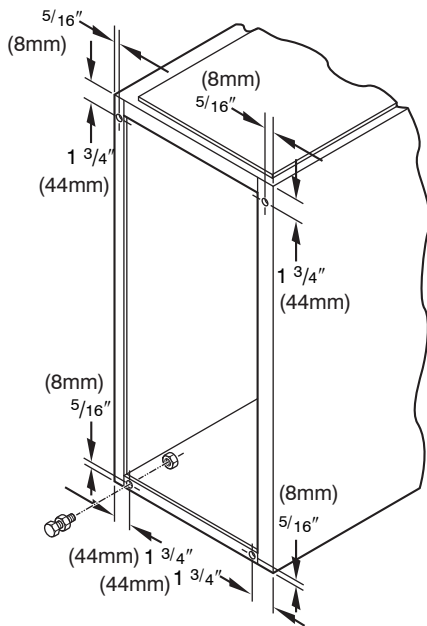

Fig. 10 – Leveling Legs
In upflow position with side return inlet(s), leveling legs may be used. (See Fig. 10.) Install field-supplied, $5/16 \times 1\text{--}1/2 \text{ in.}$ (8 x 38 mm) (max) corrosion-resistant machine bolts, washers and nuts.
1. Position furnace on its back. Locate and drill a hole in each bottom corner of furnace. (See Fig. 10.)